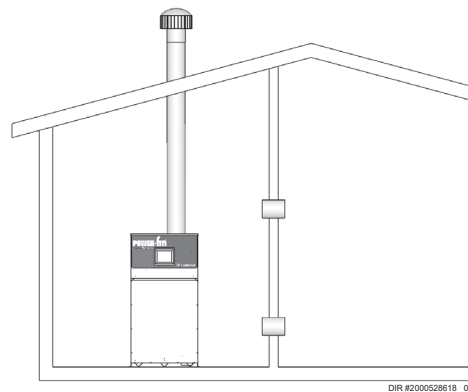

Figure 1-4_Combustion Air from Interior Space
- (a) Two spaces on same story: Each of the two openings specified above should have a net free area of one square inch for each 1000 Btu/hr (22 cm² per kW) of input, but not less than 100 square inches (645 cm²) (see FIG. 1-4).